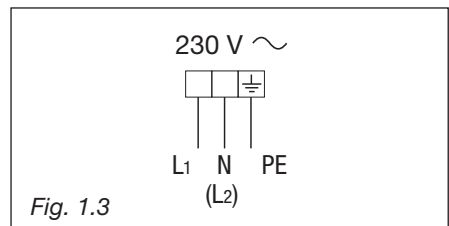

Fig. 1.3
- Connect the phase and earth cables to the terminal block "B" according to the diagram in figure 1.3.